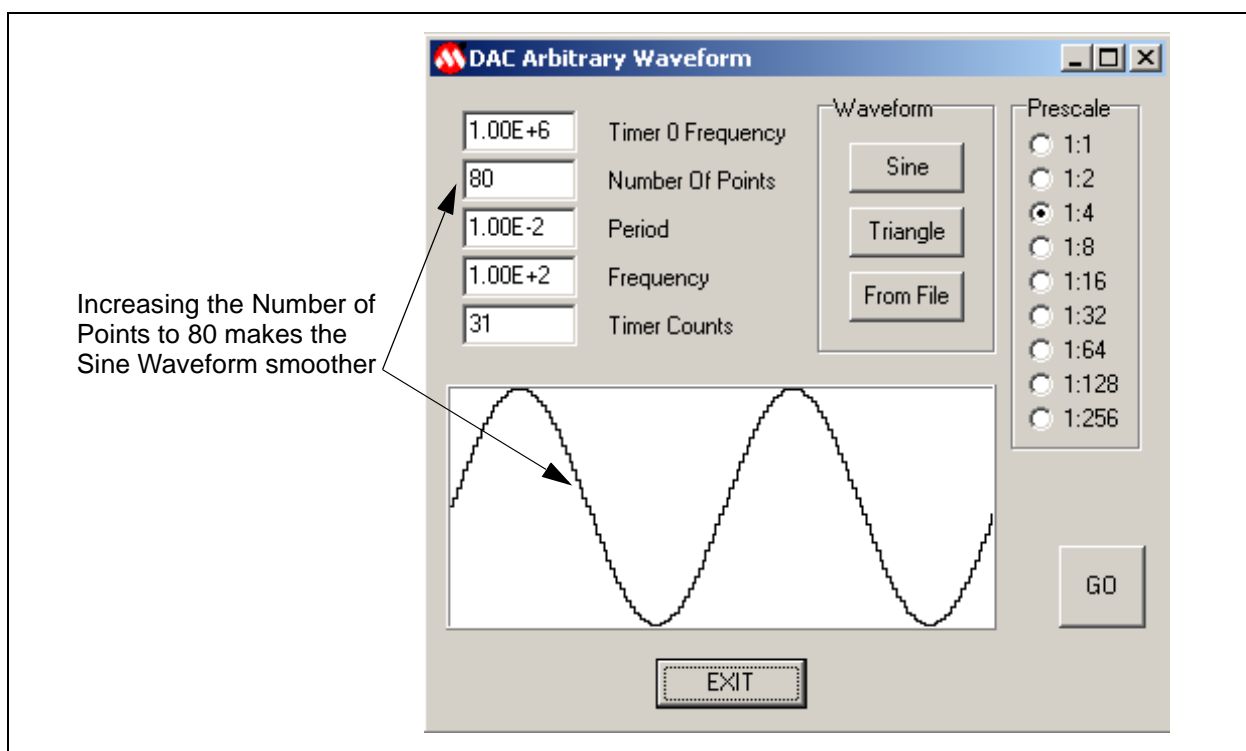

Figure 3.11: Smoothing the Waveform
4. Select the Generate Code option from the File menu, as shown in Figure 3.11.